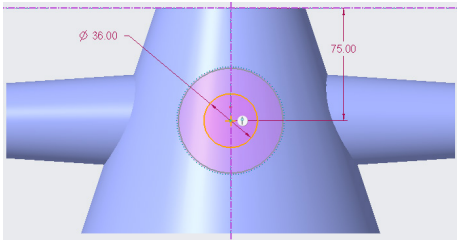

Figure 15-107 Sketch of the fourth blend feature
7. Draw second circle of diameter 36, as shown in Figure 15-107.